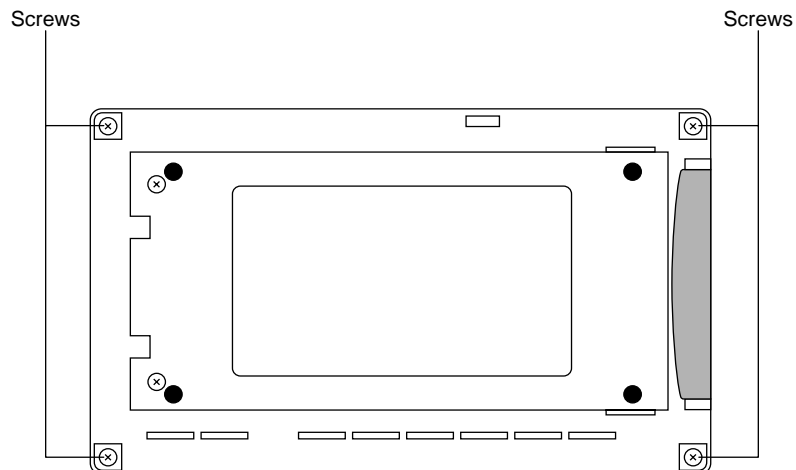

Figure 6-4: N-3000 Corner Screws
2. Remove the four corner screws that hold the monitor together (Figure 6-4).